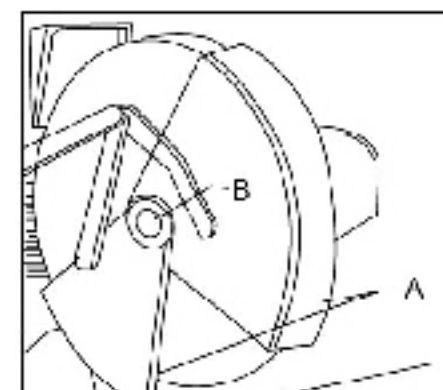

Fig.5.03
3. Open the guards (fig. 5.03).